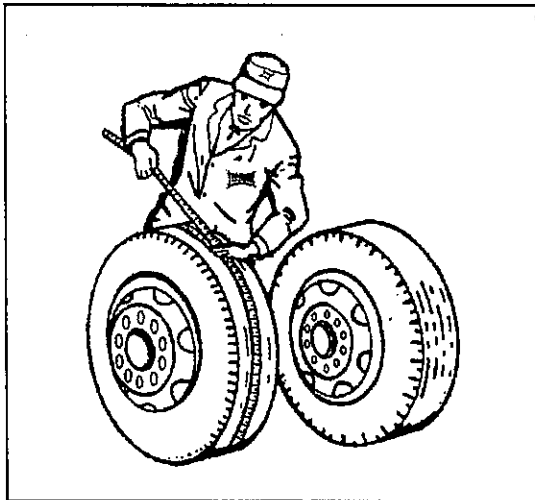

Fig. 4-17 Measuring Tape Method
a. Tape Measuring Method: Measure around each tire on the tread surface. A maximum difference of $3/4$ " is allowed between the two mating tires of a dual (See **Figure 4-17**).